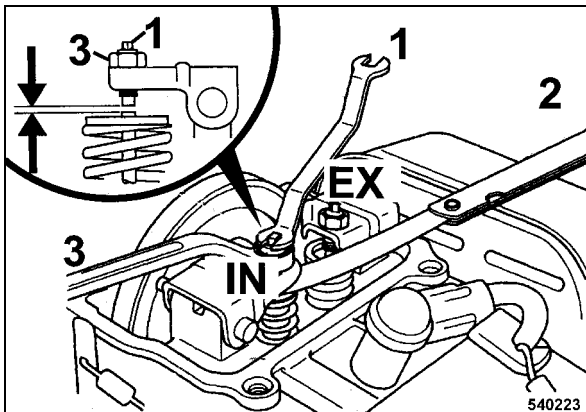

Fig. 49
- To adjust the valve hold valve adjustment screw 1 (Fig. 49) and slacken locking screw (2).